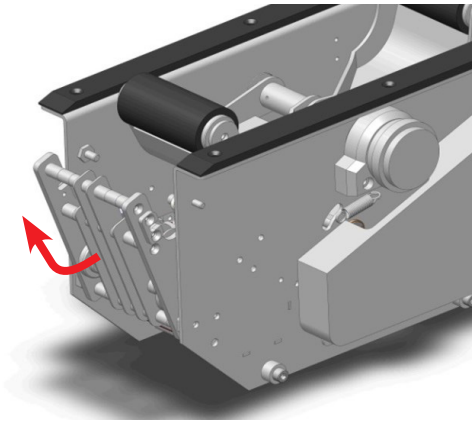

Figure 63: Remove Tape Shoe
1. Remove tape shoe and water pot from tape head, (refer to Figures 63 and 64), to gain access to cutter blade area.